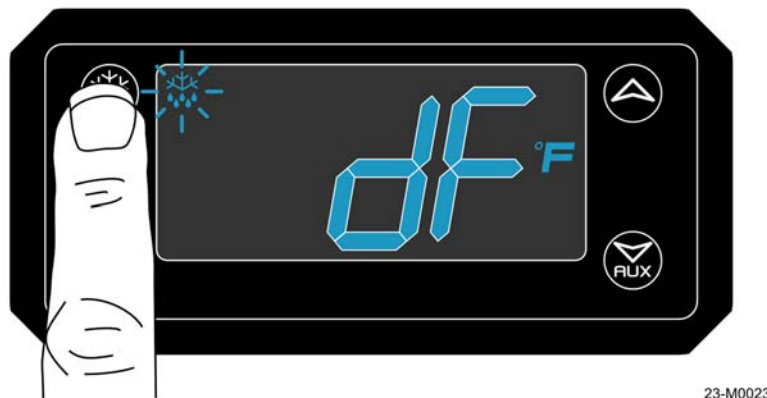

Figure 5-8
1. Remove the compressor cover to can access to the electronic controller. Initiate the defrost cycle by pressing the defrost button – the display will show a dripping snowflake symbol and “dF” for defrost; refer to Figure 5-8.